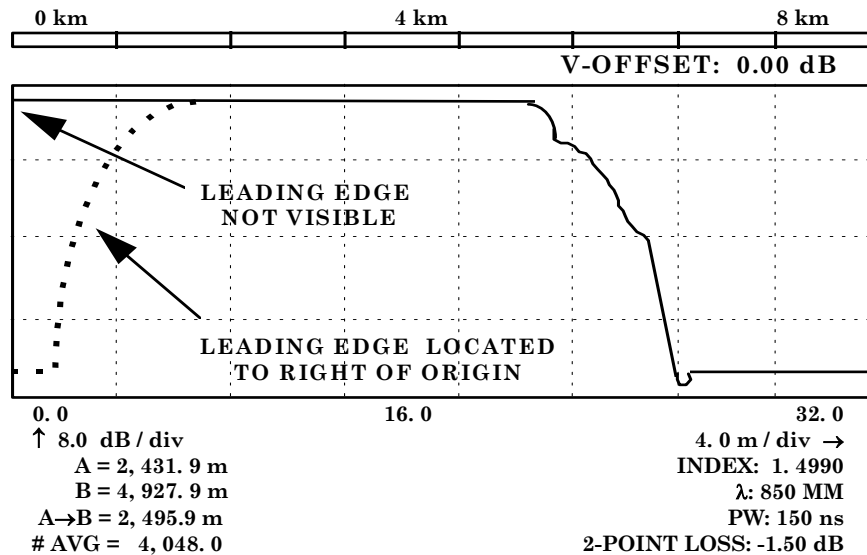

Figure 2. Example: Example of incorrect leading edge position of *dead zone pulse* (TD-260C).
(5) If leading edge is not visible or is located to right of the origin (dashed lines, figure 2), set **ON-OFF** switch to **OFF** and repeat steps (1) through (4) above.